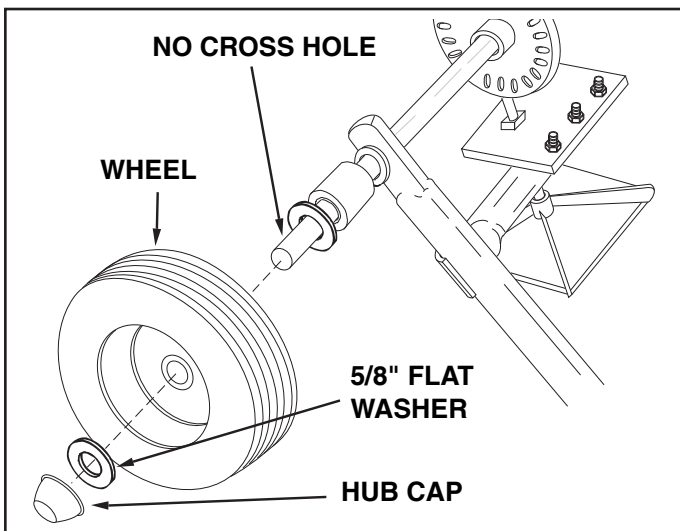

FIGURE 2
3. Place a wheel onto the end of the axle that has no cross hole. The long end of the hub goes to the inside. See figure 2.
4. Place a 5/8" flat washer onto the axle and then lightly tap a hub cap onto the axle until it is snug against the washer and wheel hub. See figure 2.